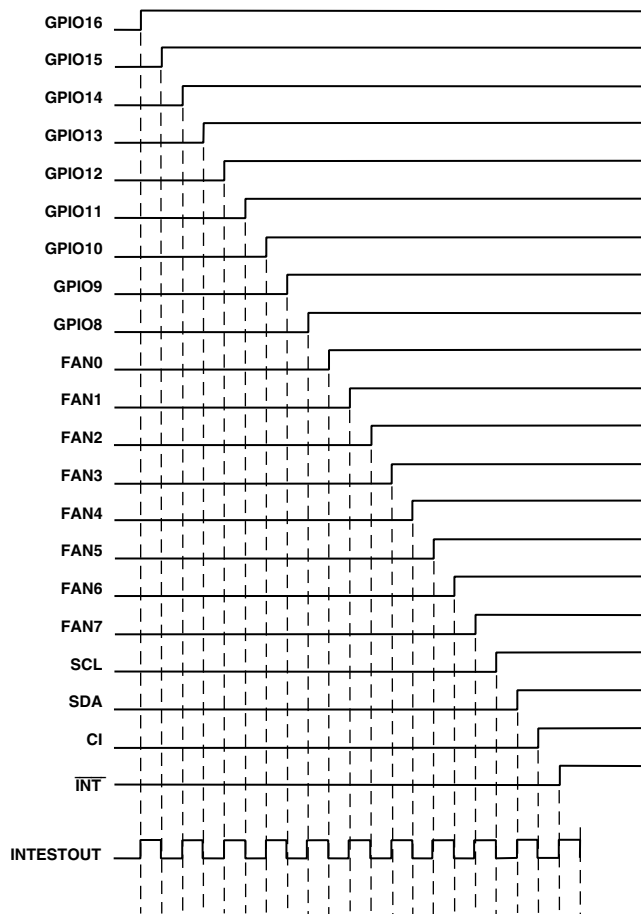

Figure 26. NAND Tree Test Taking Inputs High In Turn
1. Start with all inputs low and take them high in turn, starting with the input nearest to NTEST\_OUT (GPIO16/THERM) and working back up the tree to the input furthest from NTESTOUT (INT). This should give the characteristic output pattern shown in Figure 26, with NTESTOUT toggling each time an input is taken high.